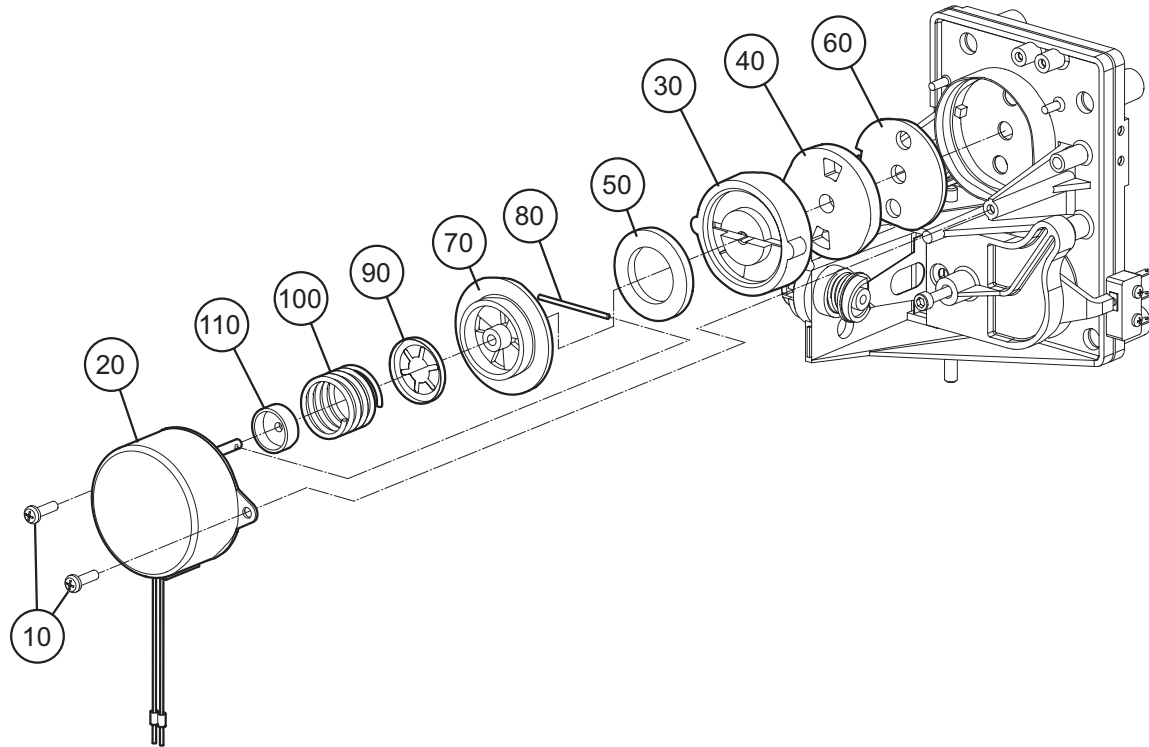

Figure 21 - Synchronous Motor (Gearbox), Rotor/Stator Assembly
- 37.4 Remove the two screws securing the gearbox motor (Fig 21, Item 10).
- 37.5 Carefully remove the synchronous motor, rotor and stator (Fig 21, Items 20, 30 and 40) from the pressure control module. Remove the felt rotor silencer (Fig 21, Item 50) from the rotor. Remove the stator gasket (Fig 21, Item 60) from the pressure assembly module.
- 37.6 Depress the motor drive cup (Fig 21, Item 70) toward the motor and remove the drive shaft pin (Fig 21, Item 80).
- 37.7 Carefully remove the rotor drive cup, star washer (Fig 21, Item 90), spring (Fig 21, Item 100) and oil seal cap (Fig 21, Item 110) from the motor.